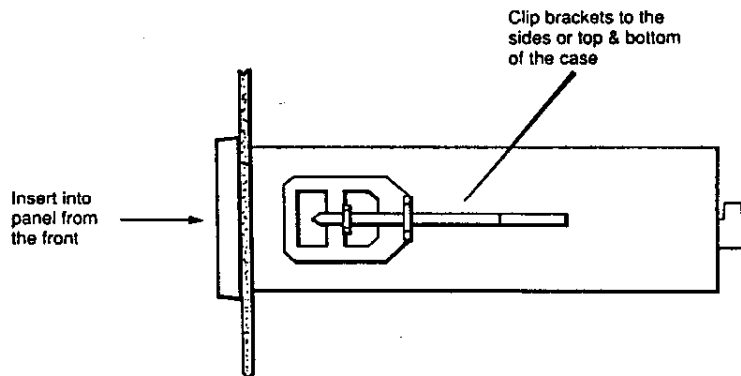

Fig 19. Installing panel mounting totaliser
- ii Clip two panel mounting brackets to opposite sides of the case as shown in Figure 19 and tighten the two screws until the totaliser is secure. Do not overtighten.